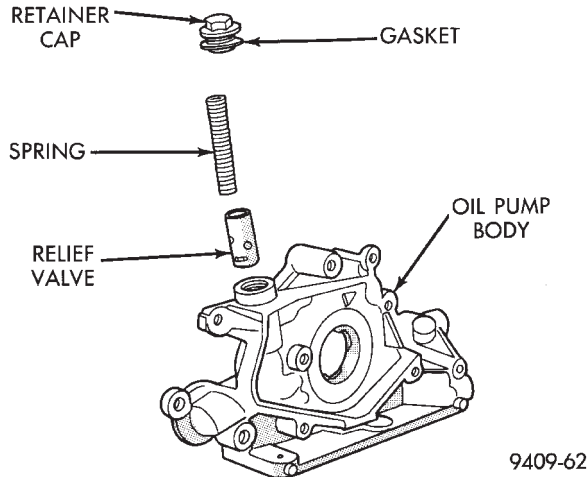
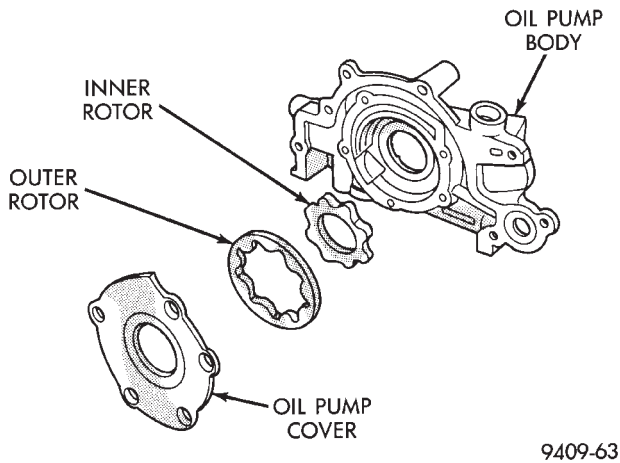

Fig. 121 Oil Pressure Relief Valve
Fig. 122 Oil Pump
- (1) To remove the relief valve, proceed as follows:
- (2) Remove the threaded plug and gasket from the oil pump (Fig. 121).
CAUTION: Oil pump pressure relief valve must be installed as shown in (Fig. 121) or serious damage may occur.
- (3) Remove spring and relief valve (Fig. 121).
- (4) Remove oil pump cover screws, and lift off cover.
- (5) Remove pump rotors.
- (6) Wash all parts in a suitable solvent and inspect carefully for damage or wear (Fig. 122).